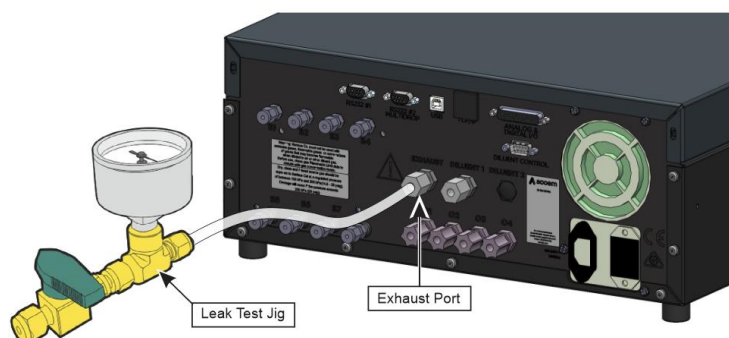

Figure 162 – Leak Test Jig to Exhaust Port
5. Refer to Figure 162. Connect a leak test jig to the **Exhaust port** of the instrument.